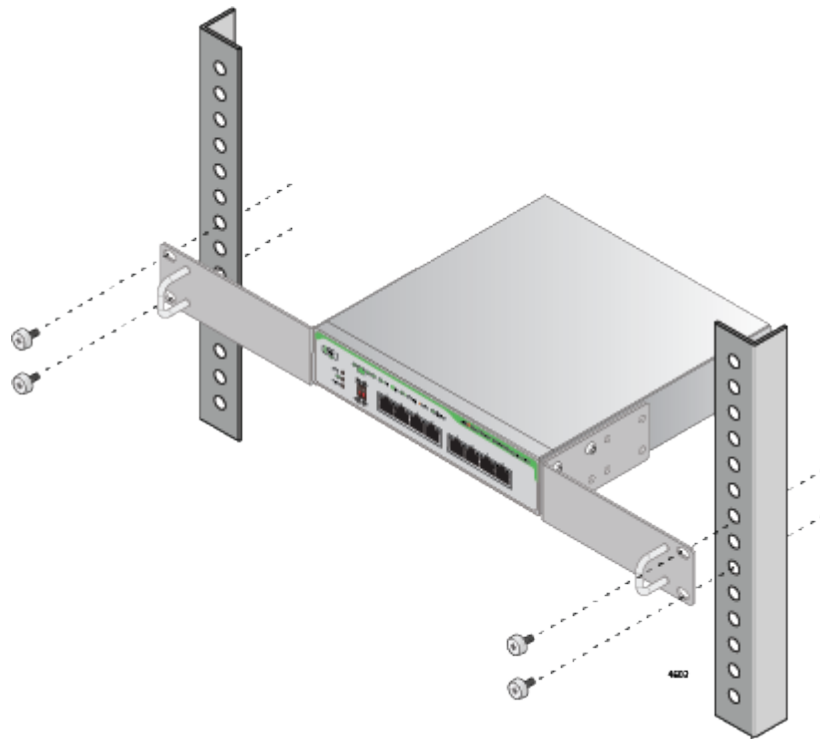

Figure 21. Mounting the Switch in an Equipment Rack
5. While another person holds the switch in the equipment rack, secure it with standard equipment rack screws as shown in Figure 21.